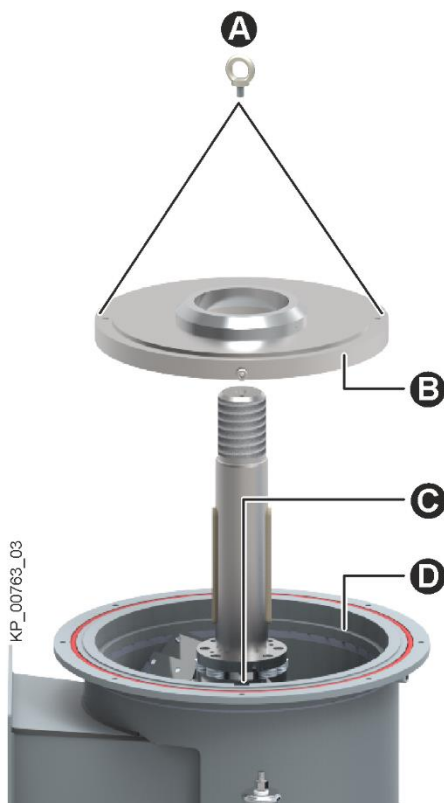

Fig. 57: Replacing the die
- Lift down the die (Fig. 57/B).
- Clean the die support and the lateral die guide (Fig. 57/D) thoroughly.
- If available: Insert the lateral screw (anti-twist device) into the groove (Fig. 57/C).